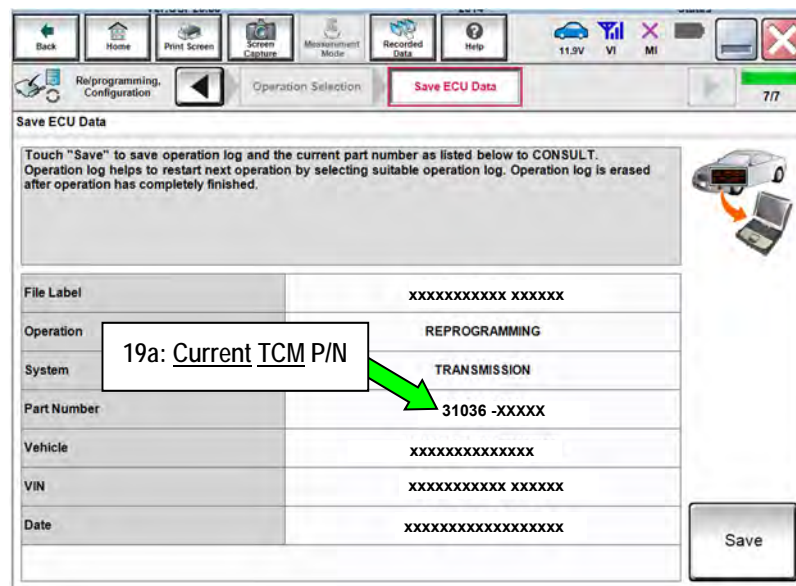

Figure 8
19. When you get to the screen shown in Figure 8, confirm TCM reprogramming applies as follows.